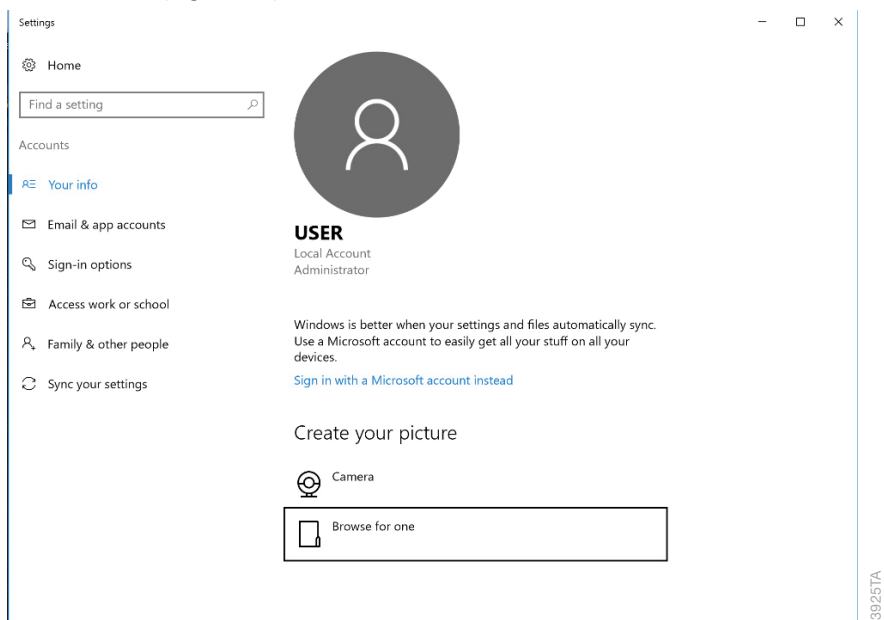

Figure 50. 'Accounts' screen. Settings related to Windows® user accounts can be managed from this screen.
3. Select the **Accounts** button on the 'Windows® Settings' screen to open the 'Accounts' screen (Figure 50).